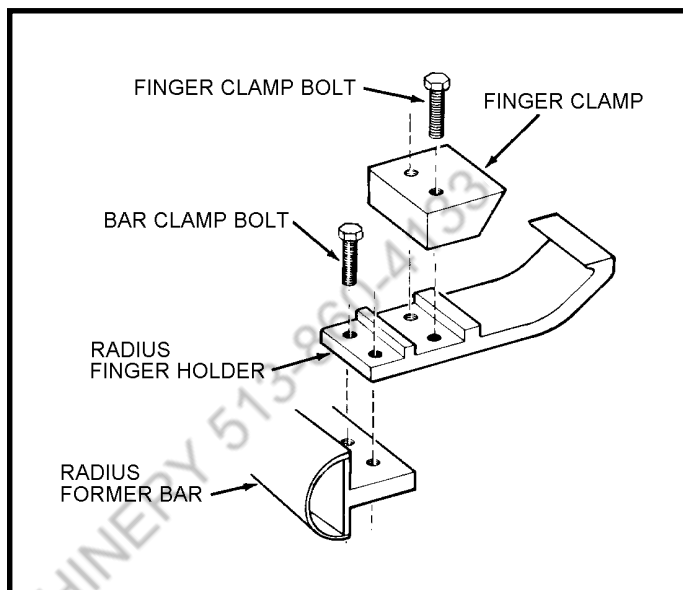

Figure 14. Assembling Radius Formers
1. Assemble the necessary number of Radius Finger Holders to the Radius Bar as shown in figure 14.